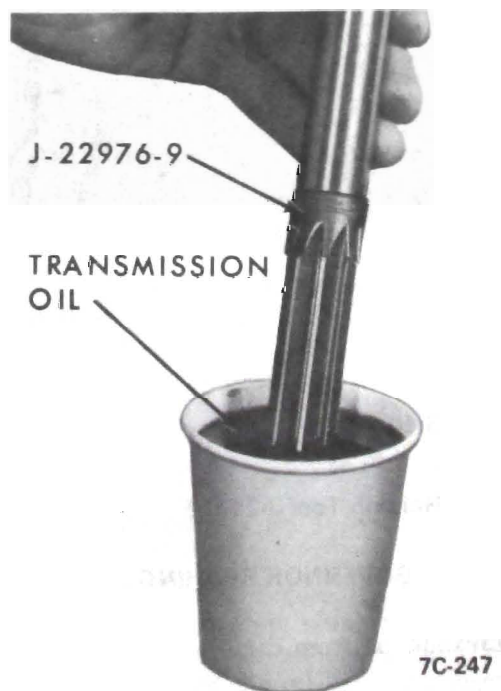

Figure 7C-198
c. *After each 10 revolutions* remove the reamer and dip it into a cup full of transmission oil. This will clean the chips from the reamer and lubricate it. See Figure 7C-198.